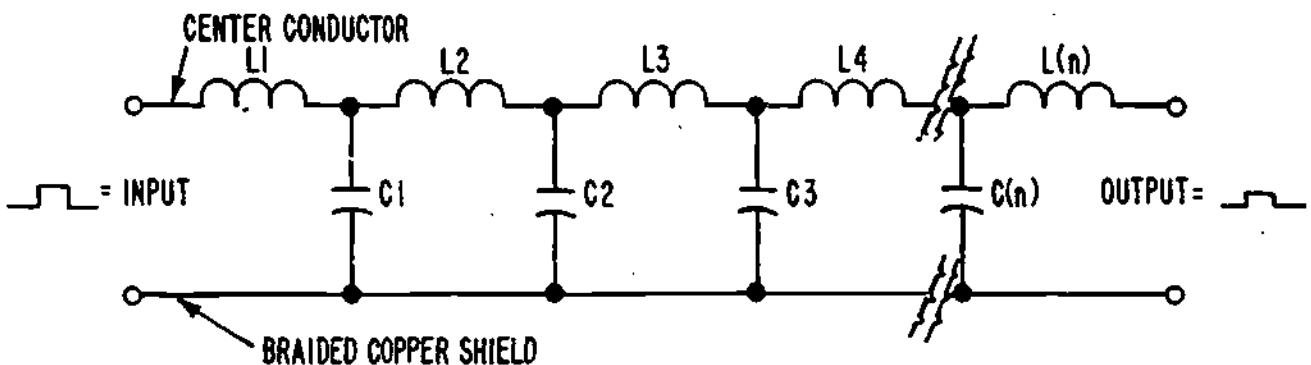

Figure 8
10. The time delay in coaxial cable can be explained by referring to the equivalent inductors and capacitors shown in Figure 8.
In Figure 8, L2 will aid/oppose the charge of C2, causing a time delay.